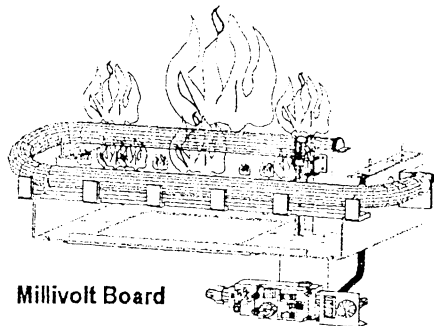

Figure 15
6. Visually check the pilot light and burner when they are burning. See **Figure 15**. The flames should be steady, not lifting or floating.